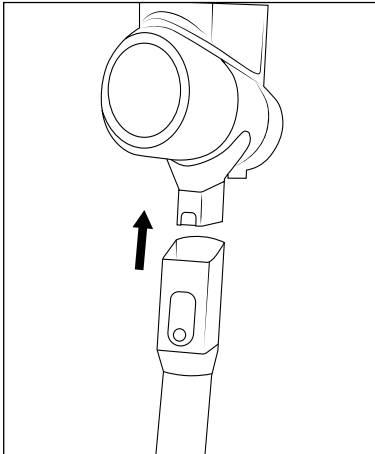

Fig. 1
- 1) Push the suction pipe  onto the appliance until it audibly clicks into place (see Fig. 1).